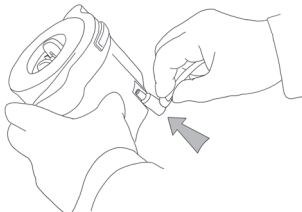

Figure 3
2. Connect the power supply to the rear of the Centrifuge (Figure 3).